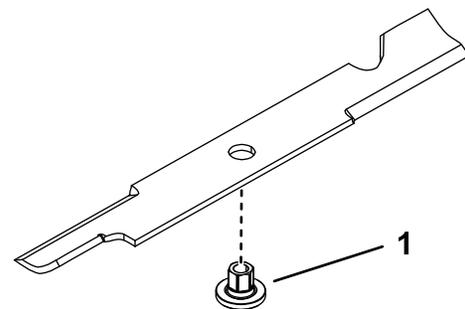

Figure 92
1. Install the bushing through the blade with the bushing flange on the bottom (grass) side of the blade (Figure 92).